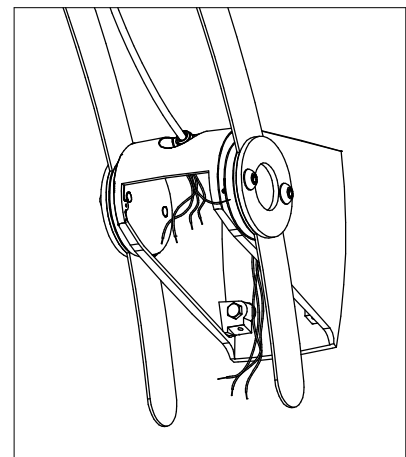

FIG. 2-3
4. REMOVE ALL GROUND/BOND CONNECTIONS THAT ARE ATTACHED TO THE CASTING. (FIG. 2-3)